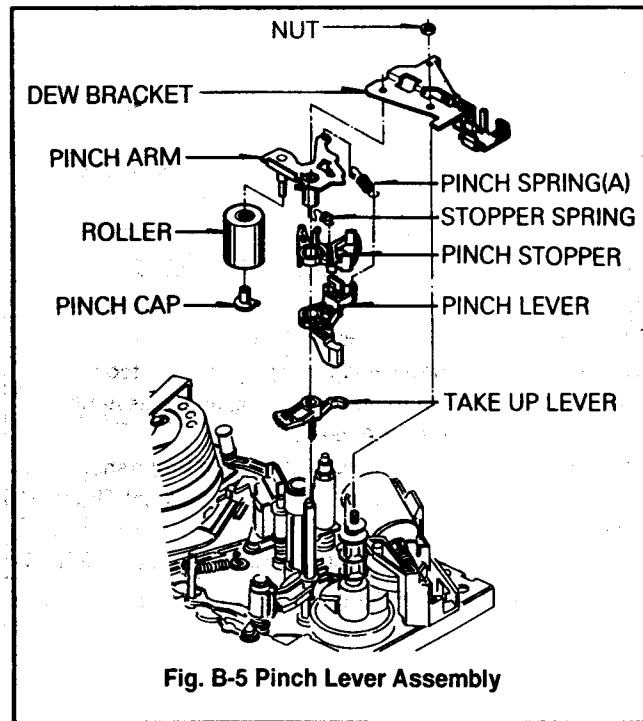

Fig. B-5 Pinch Lever Assembly
- ① First of all, release the spring A/C.
- ② Do not touch the A/C Head Tip with fingers or tools.
- ③ After reinstalling the Audio Control Head Assembly, adjust the Tilt, Azimuth and Height of A/C Head.
5. Pinch Lever Assembly(Fig. B-5)
- 2) Remove the Dew Bracket(Fig. B-5).
- 3) Remove the Pinch Lever Assembly(Fig. B-5).
- 5) Remove the Take-Up Lever by pushing the hook(A) outward.
- 2) Remove one Nut(A) and then remove the Dew Bracket (Fig. B-5).
- 3) Remove the Pinch Lever Assembly by lifting it up(Fig. B-5)